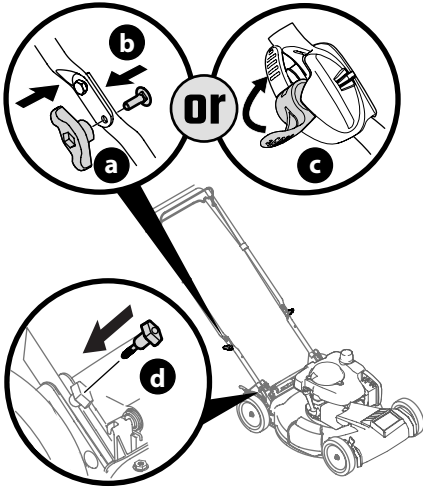

Figure 4
5. Reattach knobs or wing nuts (a) and carriage bolts (b) removed in STEP 2 into lower holes of the handle or lock the EZ-fold handle release levers (c) (Figure 4).
6. Insert the T-bolts (d) removed in STEP 4 through the handle brackets and lower handle (Figure 4) and tighten securely.